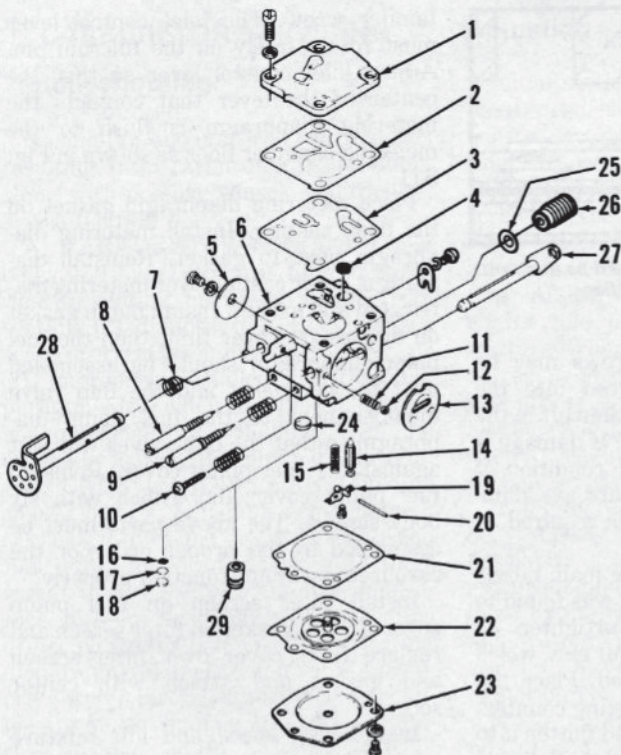
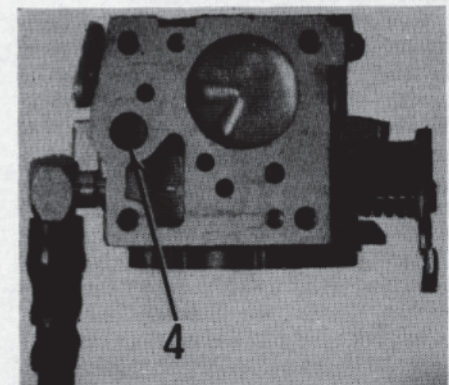
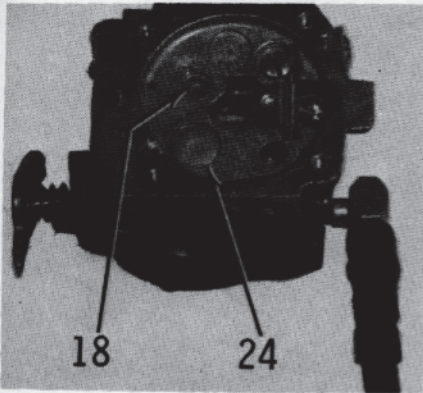
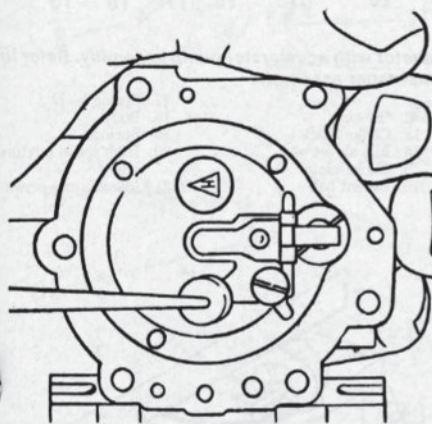

Fig. S12—Exploded view of Tillotson Model HS carburetor.
Fig. S14—Be sure to clean filter screen (4—Fig. S12 or S13) when servicing carburetor.
Fig. S15 - View showing location of welch plugs (18 & 24 - Fig. S12).
Fig. S16 - A punch can be used to remove welch plugs as shown.
OPERATION. Operation of Tillotson Model HS carburetor is covered in CARBURETION section of ENGINE DESIGN. Due to similarity, discussion of operation of HS carburetor will also apply to Model HU. Some Model HS carburetors are equipped with a governor valve (26 - Fig. S12) which resonates at a desired engine speed and directs excess fuel into carburetor bore to prevent overspeeding. Governor valve is designed for specific engines and should not be altered.
OVERHAUL. Carburetor may be disassembled after inspecting unit and referring to exploded view in Figs. S12 or S13. Clean filter screen (4 - Fig. S14). Welch plugs (Fig. S15) may be removed by drilling plug with a suitable size drill bit and prying out as shown in Fig. S16. Care must be taken not to drill into carburetor body. Some HS carburetors are equipped with a check valve (29) in place of components (16, 17 and 18).
Inspect inlet lever spring (15 - Fig. S12 or 19 - Fig. S13) and renew if stretched or damaged. Inspect diaphragms for tears, cracks or other damage. Renew idle and high speed adjusting needles if needle points are grooved or broken. Carburetor body must be renewed if needle seats are damaged. Fuel inlet needle has a rubber tip and seats directly on a machined orifice in carburetor body. Inlet needle or carburetor body should be renewed if worn excessively.